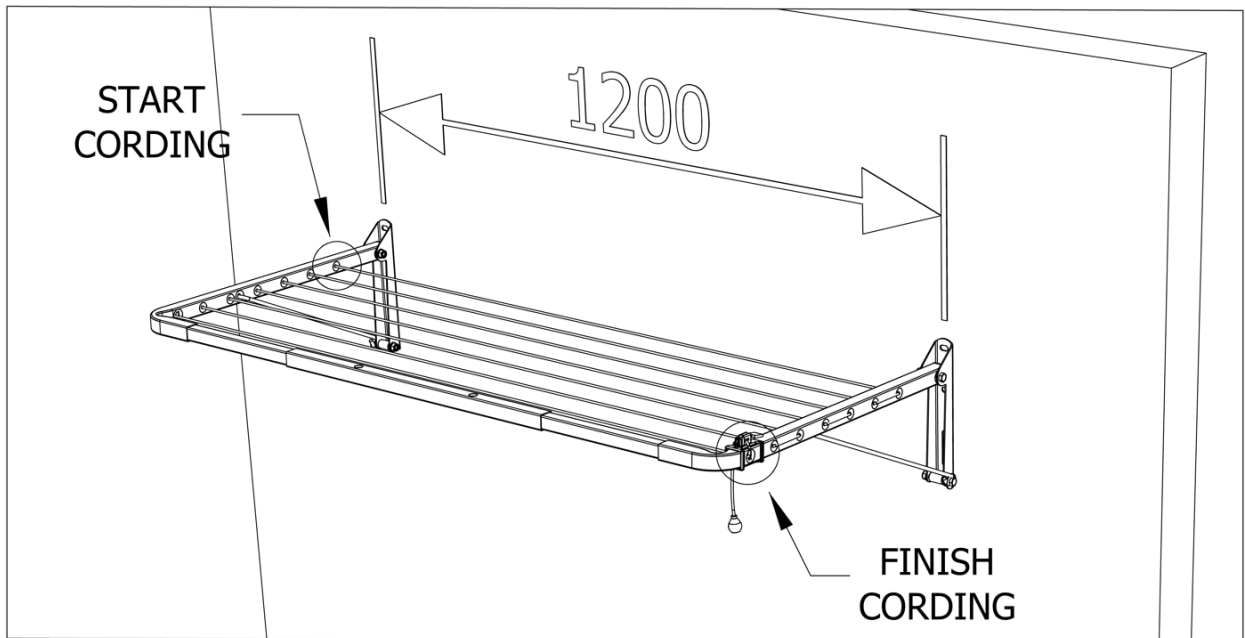

Fig 1. Indoor fitted to wall / Cord start stop positions.
6. Start cording at the rear left-hand hole, tie a knot in the cord to stop it pulling through. (Fig 1)
7. Working across and toward the front of the clothesline finish at the Line Tension Lock (L.T.L.) front right. (Fig 1)